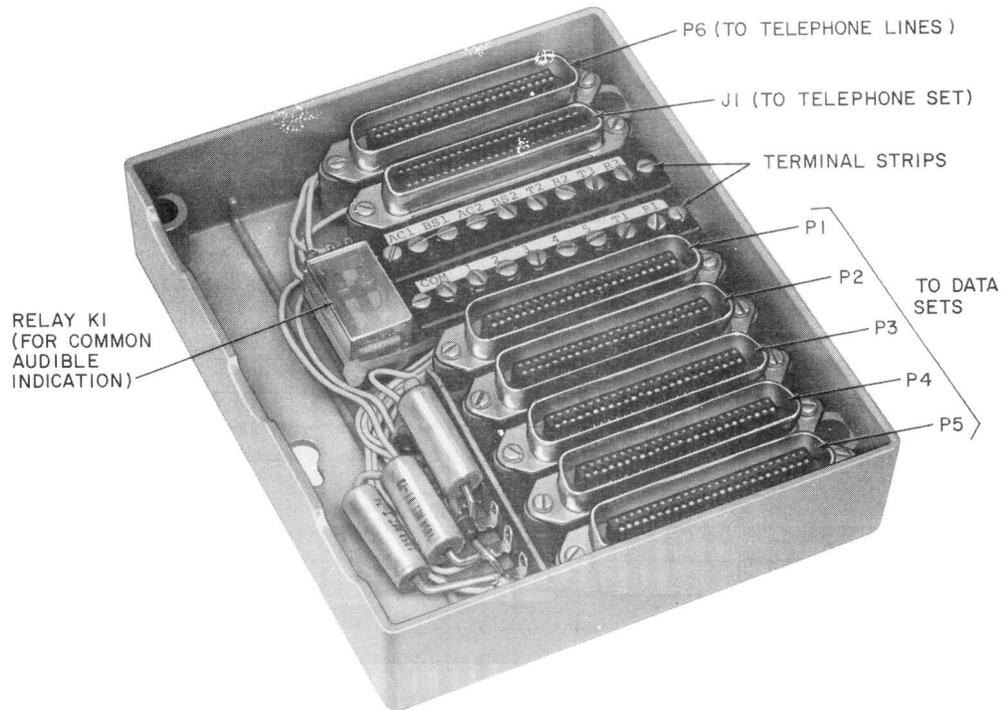

Fig. 10—KS-21253-L3 Adapter With Cover Removed
6.01 The station arrangements described in this part comply with the FCC registration program and apply only to DS 113DR-L1/2. Section 590-011-202 describes station arrangements using DS 113DR-L1 and 40A3 data mountings. Refer to Fig. 5 for detail drawings of key telephone set, KS-21239-L5 transformer, and 153A adapter connections. Refer to Fig. 6 through 9 for connection diagrams of the arrangements. Fig. 10